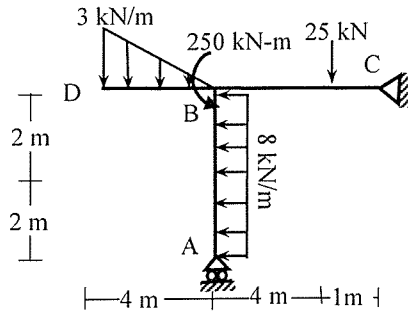

Fig.B1
5. Analyze the frame shown in **Fig.B1** and draw the shear force and bending moment diagram. [15]